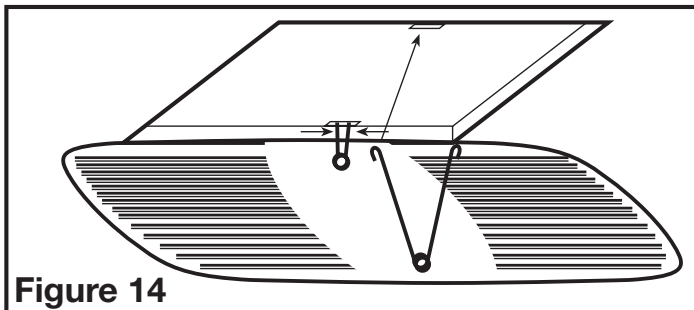

Figure 14
4. Install the grill by squeezing the two ends of the springs together and installing them up into the slots on the fan's housing. Push the grill up into position (**Figure 14**).